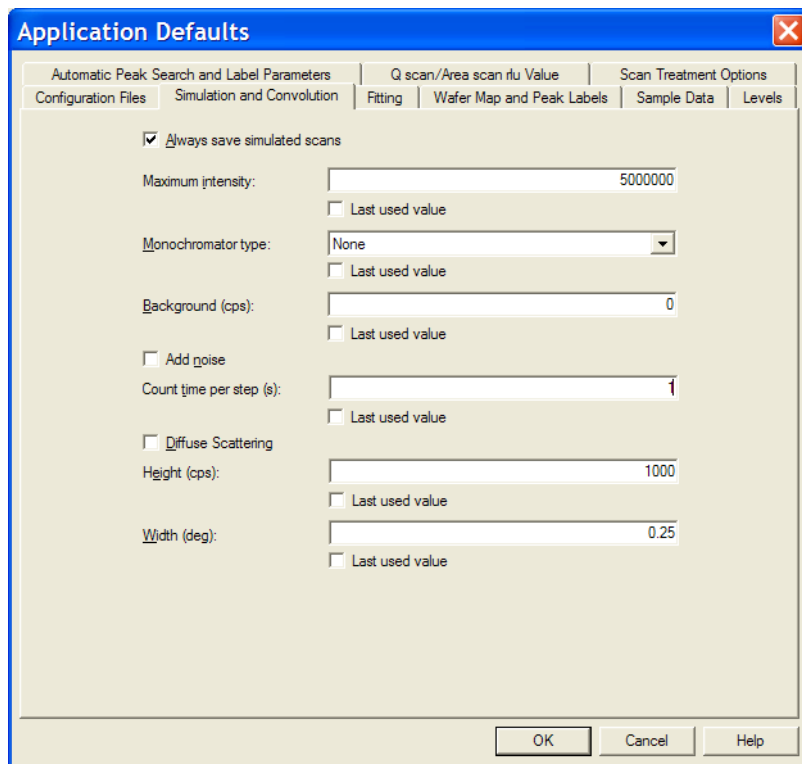

Figure 6-8: The Simulation and Convolution Defaults Tab
- Set all values as shown in Figure 6-8.
The simulated curve is shown as a temporary file (file name ends in #) as shown in Figure 6-11. The simulated curve has not been convoluted with a monochromator and the background count was set at zero (see defaults set in Figure 6-8).